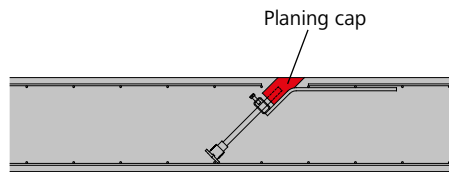

Fig. 30.1
Step 1: After pouring, remove the planing cap (Fig. 30.1).